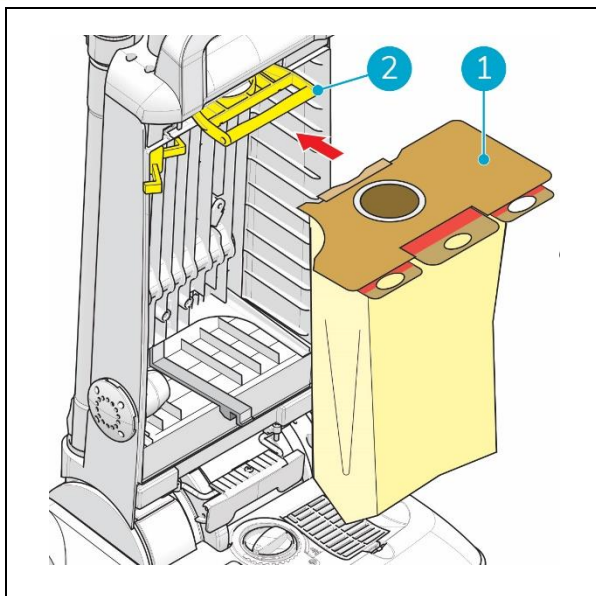

Figure 13
7. Slide the cardboard collar (Figure 13, pos 1) of the dust bag into the slots to fully insert the dust bag.
8. Push the handle (Figure 13, pos 2) inwards until it locks.